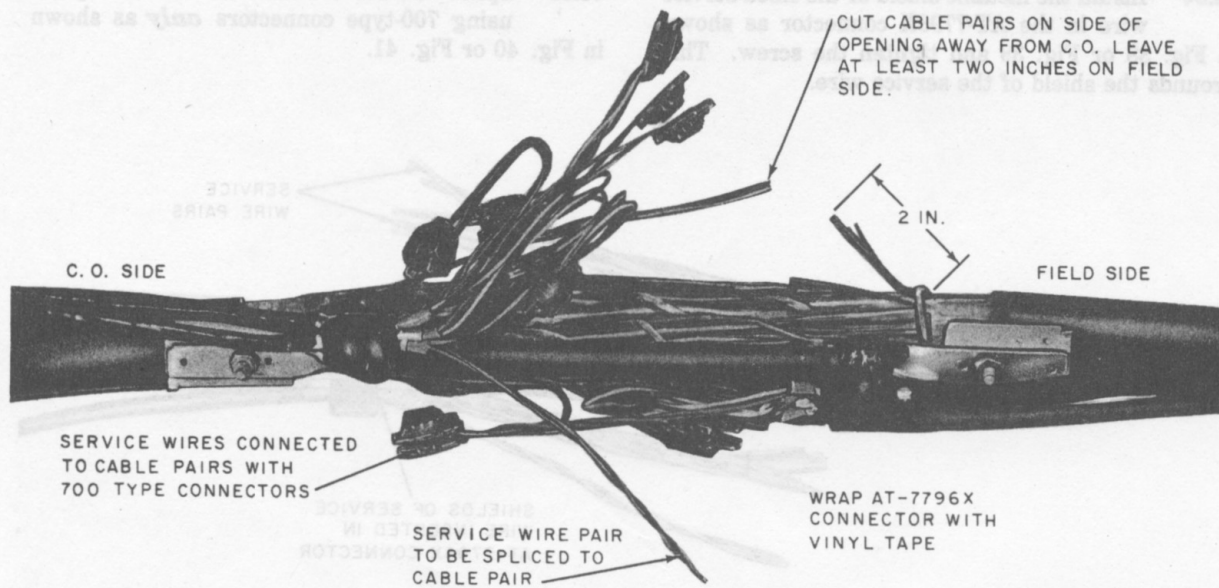
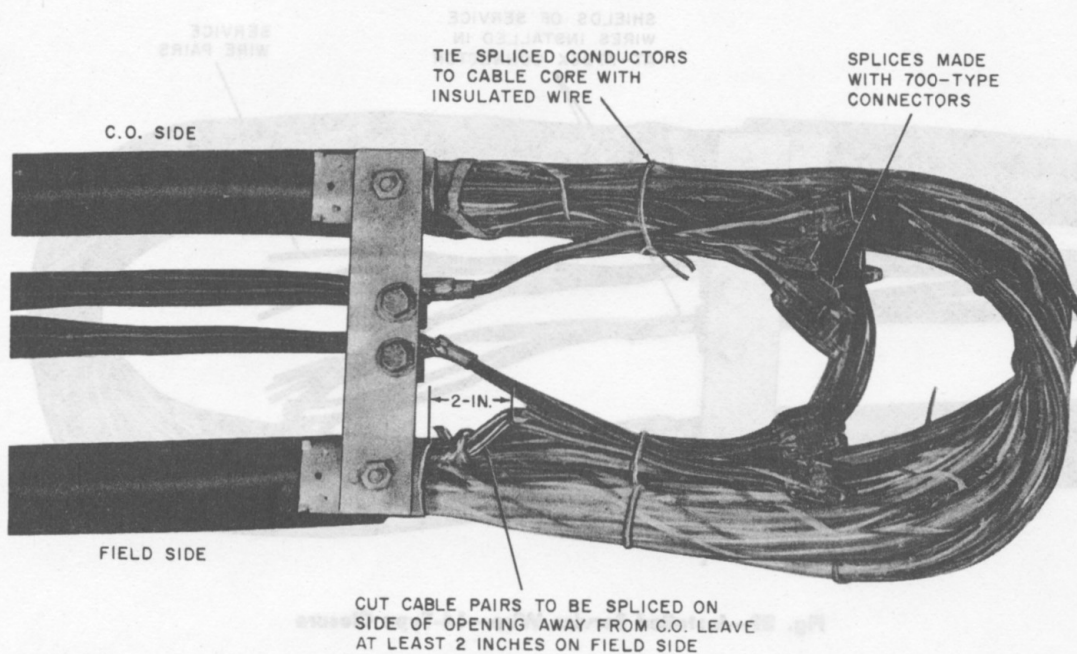

Fig. 40—Splicing Cable Pairs—13-Type Closure
Fig. 41—Wire Work Complete—14-Type Closure
13.05 Splice the service wire to the cable pairs using 700-type connectors **only** as shown in Fig. 40 or Fig. 41.